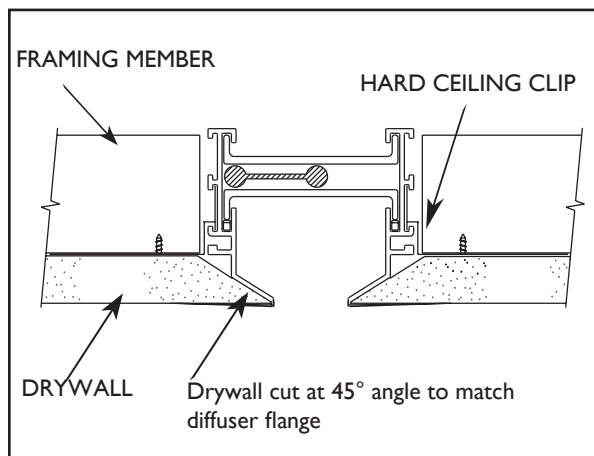

Figure 9. Drywall Preparation - (Border 55 Only)
- For Border 55 only, before installing the sheetrock or wood ceiling, the leading edge must be trimmed at a 45° angle to match the Diffuser as shown in Figure 9.